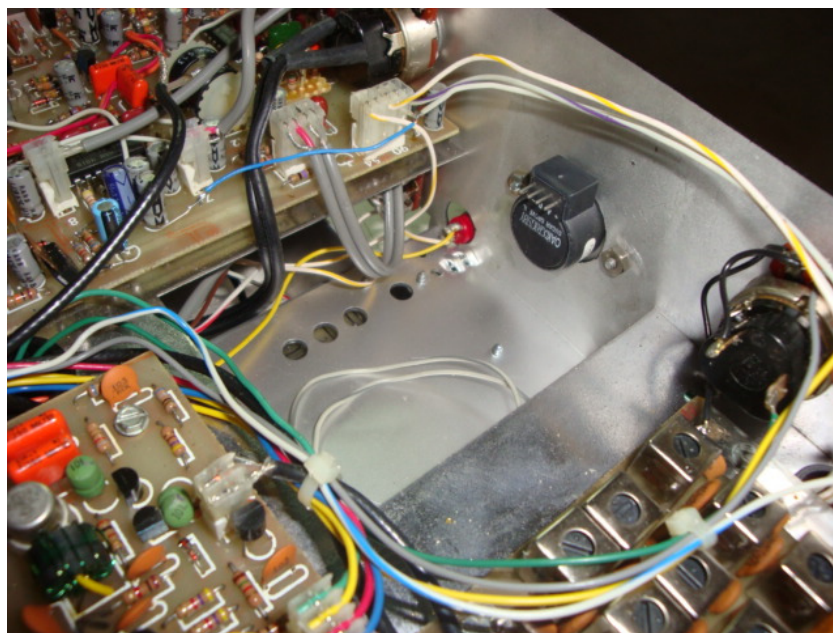

Figure 5. Interior View of Encoder Mounted on Front Panel
This completes the only "difficult" part of this installation. Figure 5 shows the encoder in and ready to go.
5. You will find the DDS board fits very nicely on the bottom of the chassis in the PTO location shown in Figure 5. Carefully move wires around and there will be three mounting positions available with the upper left hole toward the panel left without support. This is not a problem. My board is quite stiff on the three spacers. Choose spacers and small self tapping screws to attach the board, carefully drilling the chassis. Move all existing wires carefully out of the way. I temporarily removed quite a few of the Corsair jumpers to "clean up" the work area. Make sure your spacer length does not impede connection of the encoder pins, i.e. don't make the spacers too long. I used about 1/8" spacers. And 4-40 or smaller self tapping screws. Orient the DDS board so that the pins for the encoder face the right, looking at the front panel, or toward the bandpass board, lower right in picture. This will leave other pins in favorable orientation.